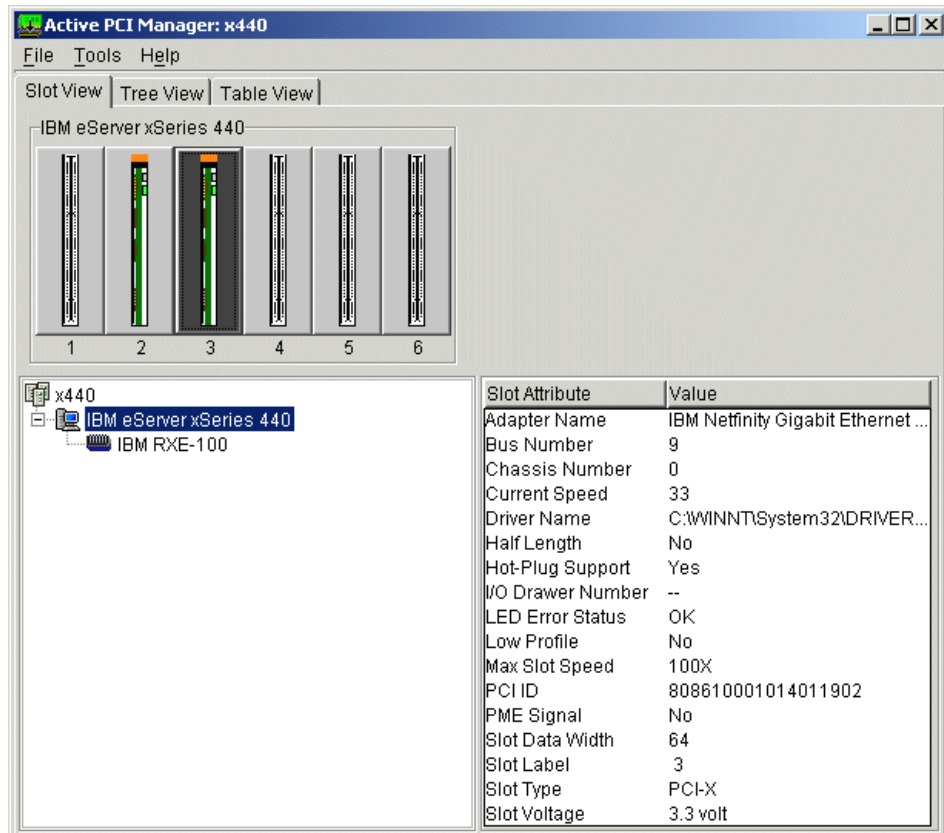

Figure 5-12 IBM Gigabit Ethernet Adapter installed in slot 3
9. After the adapter has been added, the slot view window is dynamically updated, as seen in Figure 5-12.